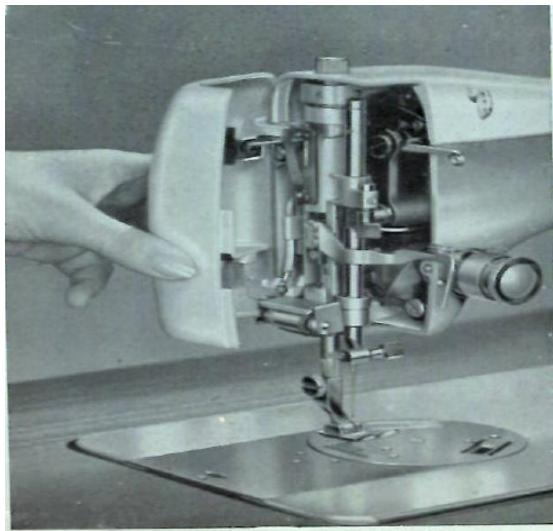
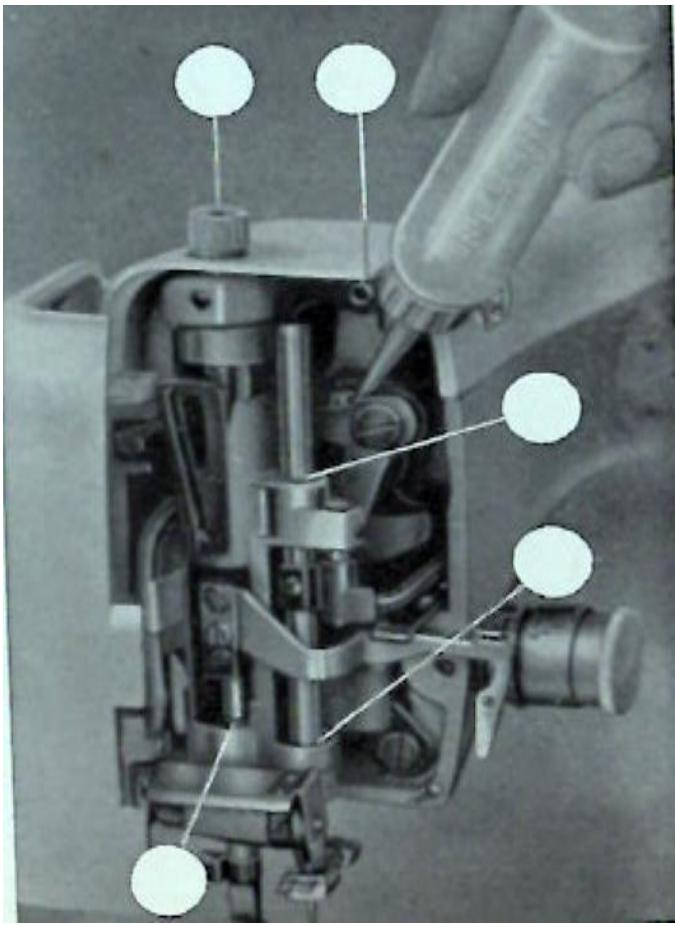

Figure 2
Figure 4
- b) Open the face plate (Figure 2) turning it by hand on its hinges
- b) After opening the face plate (figure 2), let fall one drop of oil in each hole and link (figure 4).